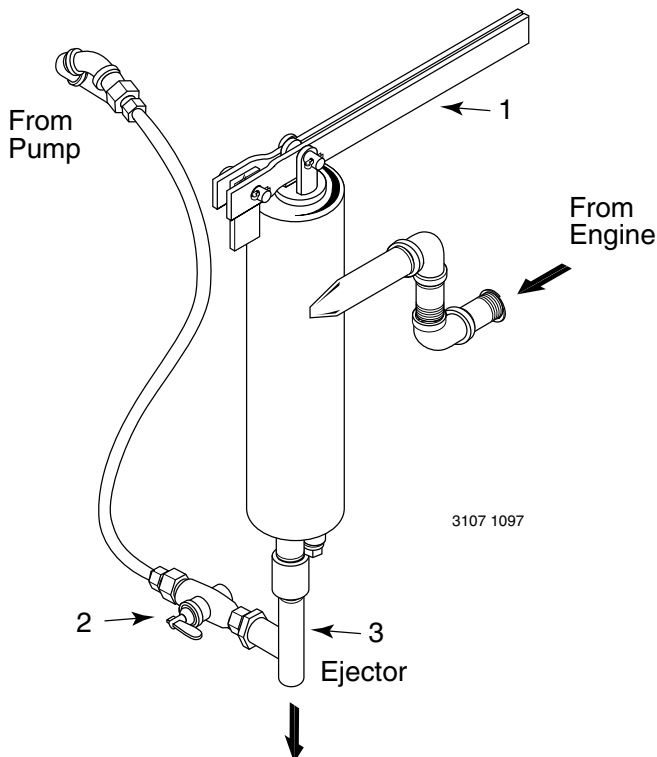

Figure 1
**With Exhaust Primer** (see Figure 1, below):